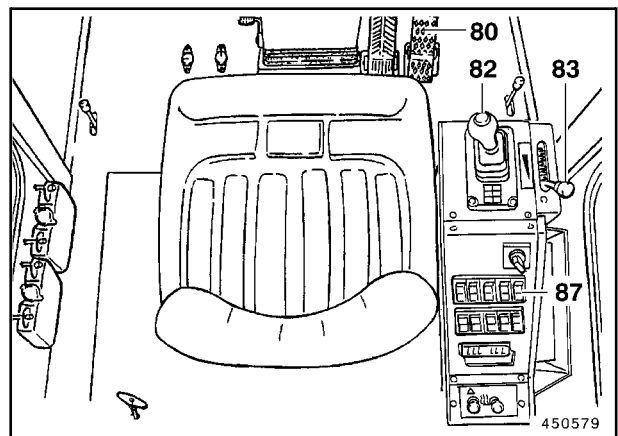

Fig. 2
- Apply the parking brake with switch (87, Fig. 2) and move gearshift lever (82) to neutral position